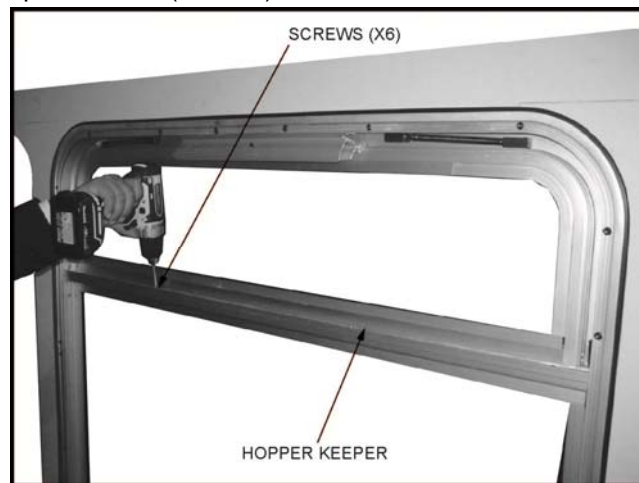

FIGURE 3-24. HOPPER KEEPER REMOVAL
The purpose of these instructions is for removal and installation of the Hopper Assembly as shown in **Figure 3-24**. Standard Frame and Hidden Frame Hopper Assembly removal are similar.
- 2) Refer to **Figure 3-24**. Remove and retain six screws that hold Hopper Keeper in place using a cordless driver with a Phillips driver bit (size P2).